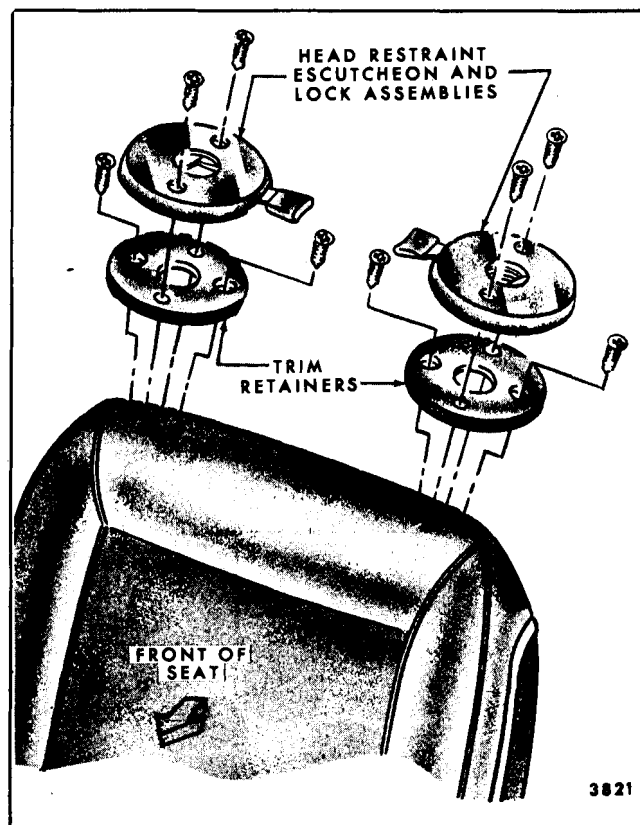

Fig. 14-47-Head Restraint - Strato Seats
1. Remove head restraint from seat back. Remove escutcheon and lock assembly attaching screws and remove assembly (Fig. 14-47).
2. Remove two screws securing retainer to seat back (Fig. 14-47).
5. Remove screw securing upper flange of guide tube to seat back frame; then, pull tube out of supports (Fig. 14-47).